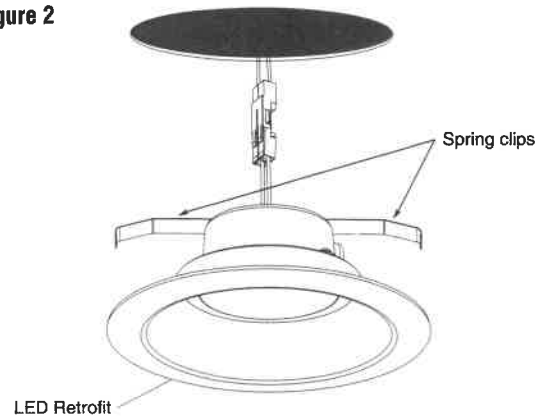

Figure 3
3. Screw E26 socket adapter into socket in housing. (Fig. 3)
4. Plug the female connector of the retrofit-kit onto the male connector of the socket adapter assembly. (Fig. 3)
5. Squeeze the spring clips together as shown and install into the housing. (Fig. 3)